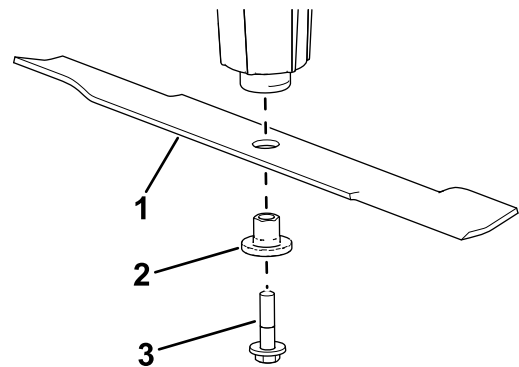

Figure 24
4. Remove the blade bolt, bushing, and blade from the spindle shaft (Figure 24).